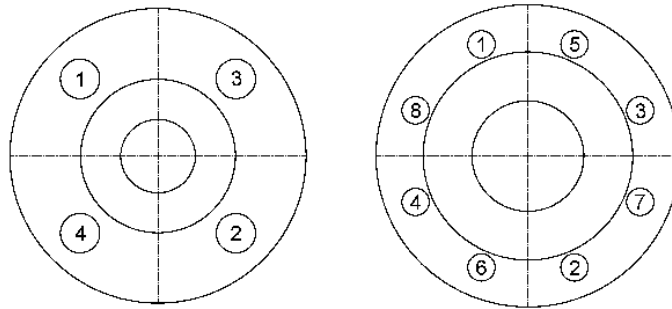

Figure 6 Flange Bolt Torquing Sequence
Figure 6 page 20 provides the recommended minimum stud bolt lengths for wafer-style meter body size and different flange ratings.
4. Place the remaining studs between the pipe flanges. Tighten the nuts in the sequence shown in Figure 6 Check for leaks after tightening the flange bolts.
3. Install bolts in both process connections. Tighten the nuts in the sequence shown in Figure 6. Check for leaks after tightening the flange bolts.